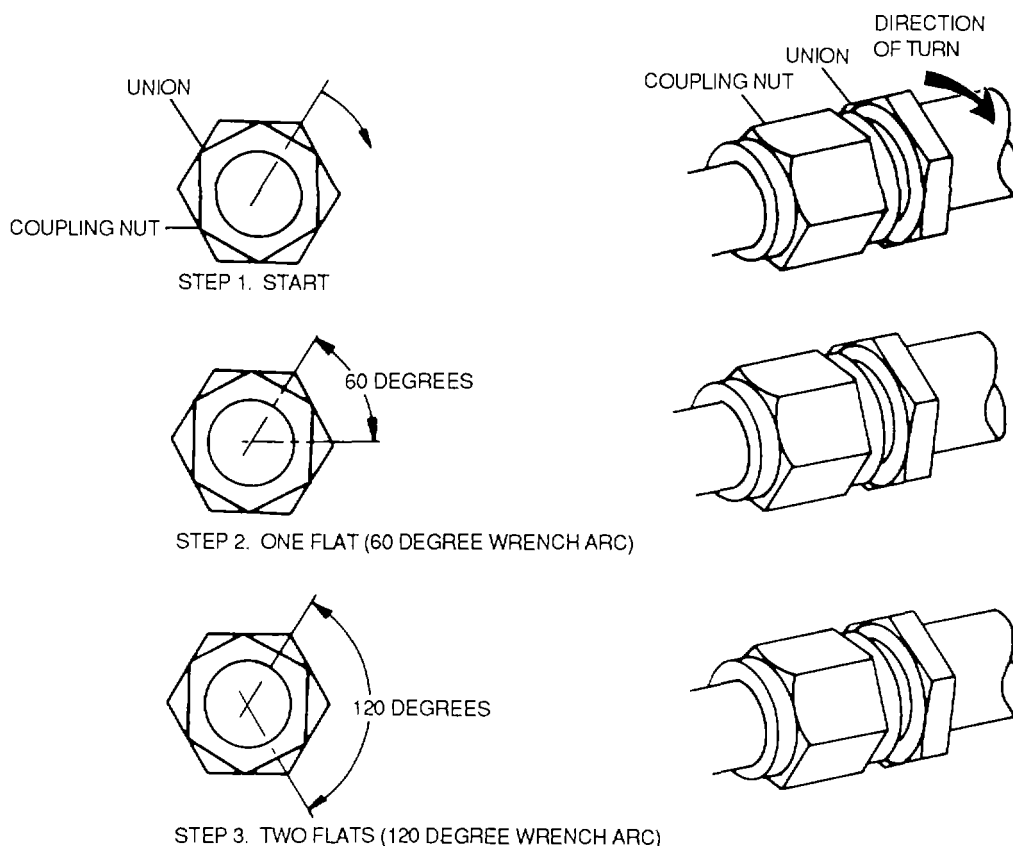
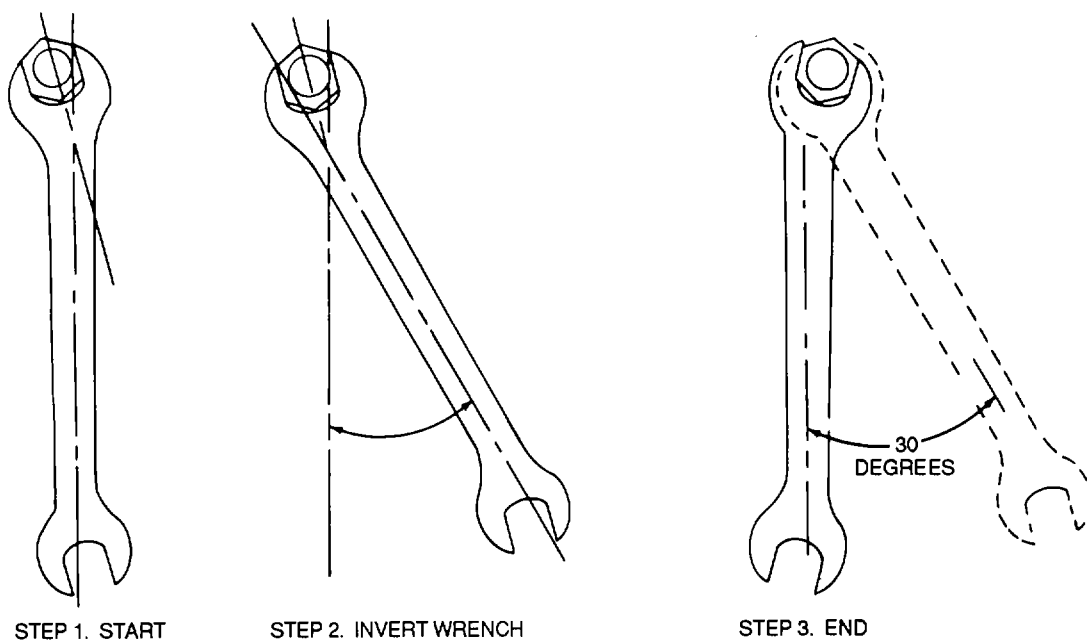
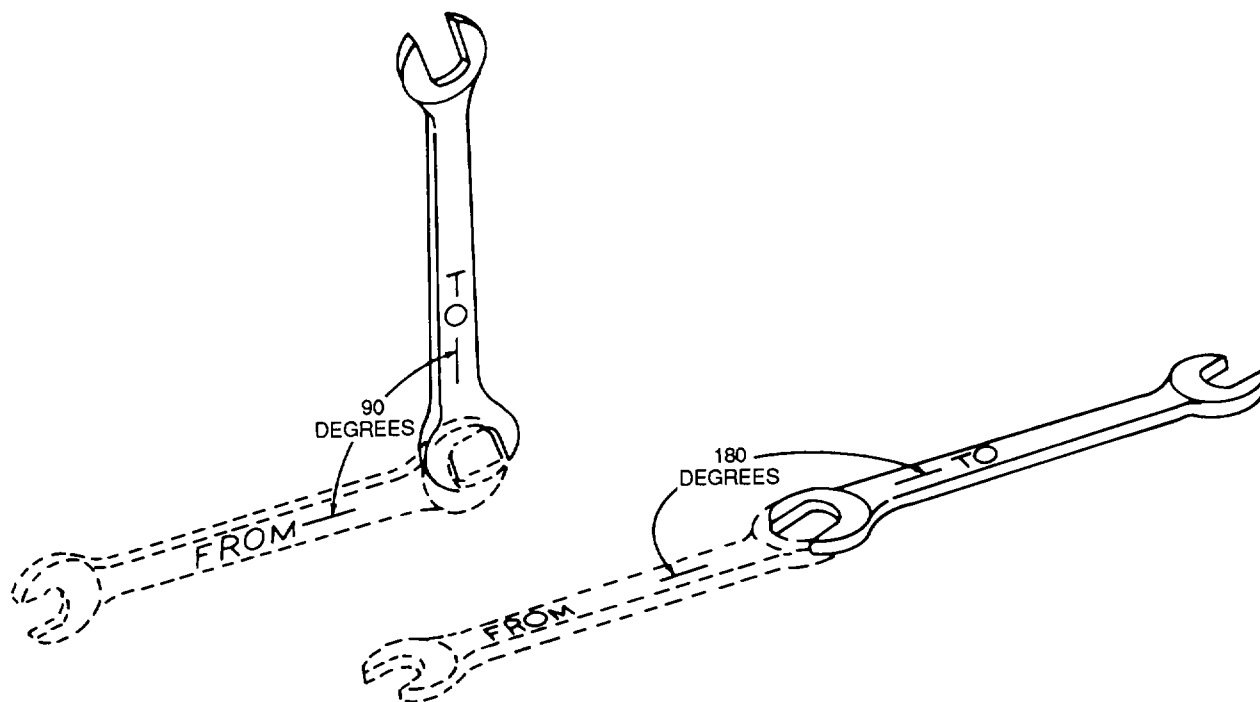

Figure 8-26. Tightening to 60- or 120-Degree Wrench Arc
Figure 8-27. Tightening to 30-Degree Wrench Arc
Figure 8-28. Tightening to 90- or 180-Degree Wrench Arc
(4) Tightening to 60- or 120-degree wrench arc. In this method of tightening, primarily used for tube fittings, the flats on the union are used as a reference. Wrenches other than open-end wrenches (crowfeet or tubing wrenches) may be used. Proceed as follows:
- (b) Use the corners of coupling nut and of mating union to gauge amount that coupling nut will have to move, as shown in figure 8-26.
(5) Tightening to 30-degree wrench arc. Proceed as follows:
- (b) With wrench still positioned on nut, note position of wrench handle, and pick out point of reference in line with handle, as shown in figure 8-27.
- (d) Turn wrench to position established in figure 8-27.
(6) Tightening to 90-degree or 180-degree wrench arc. In this procedure, wrenches other than open-end (box, tubing, crowfeet) may be used. Any local reference, such as the engine or component centerline, may be used to judge wrench travel.
- (b) For 90 degree arc, turn wrench until handle is perpendicular (at a right angle) to its starting position, as shown in figure 8-28.